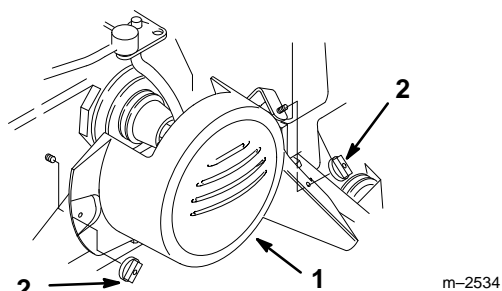

Figure 6
9. Remove the two wing nuts and belt cover from the tractor (Fig. 6).
18. Install belt cover (Fig. 6).